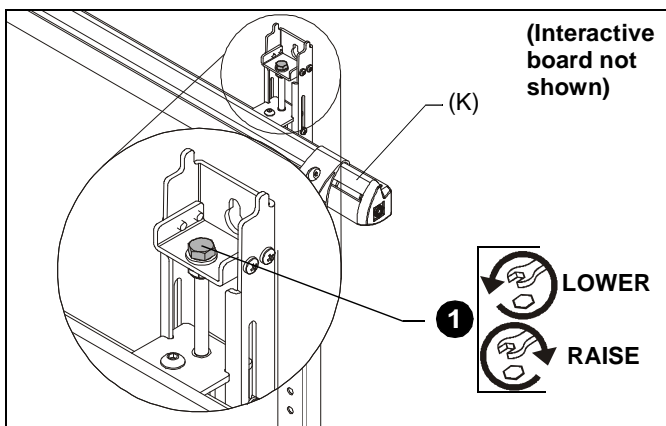

Figure 11
1. The wall assembly (K) can be adjusted or leveled by turning the hex head bolt in the brackets. (See Figure 11)